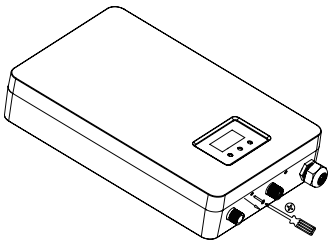

Figure 3
- 3.1. Step 1: use a cross screwdriver to screw out the bottom screw of the face shell (refer to Figure 3);